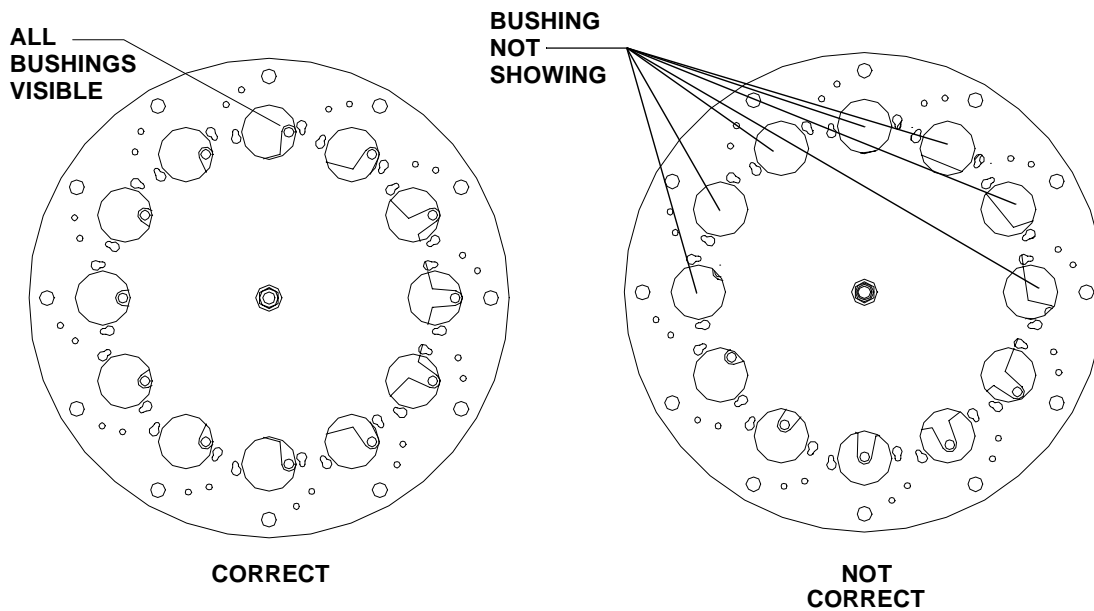

Figure 1 BUSHING ALIGNMENT
2. The drive star rotates freely around the drive cam mechanism under the turntable. Rotate drive star with fingers (or other object) inserted through the large holes. Rotate until all of the nylon drive star bushings are visible through all of the large holes. (See Figure 1)